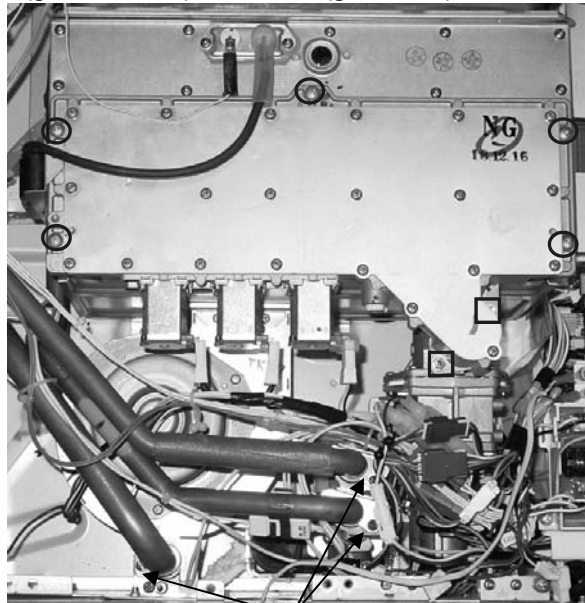

Figure 1
6. Remove 3 screws and brackets securing the water line connections. (Figure 1)
7. Remove the 5 screws that attach the gas manifold to the combustion chamber (part of the heat exchanger assembly). (Figure 1)
8. Remove the 2 screws that attach the gas manifold to the gas valve. These screws are machine screws and must be used at these locations. (Figure 1)